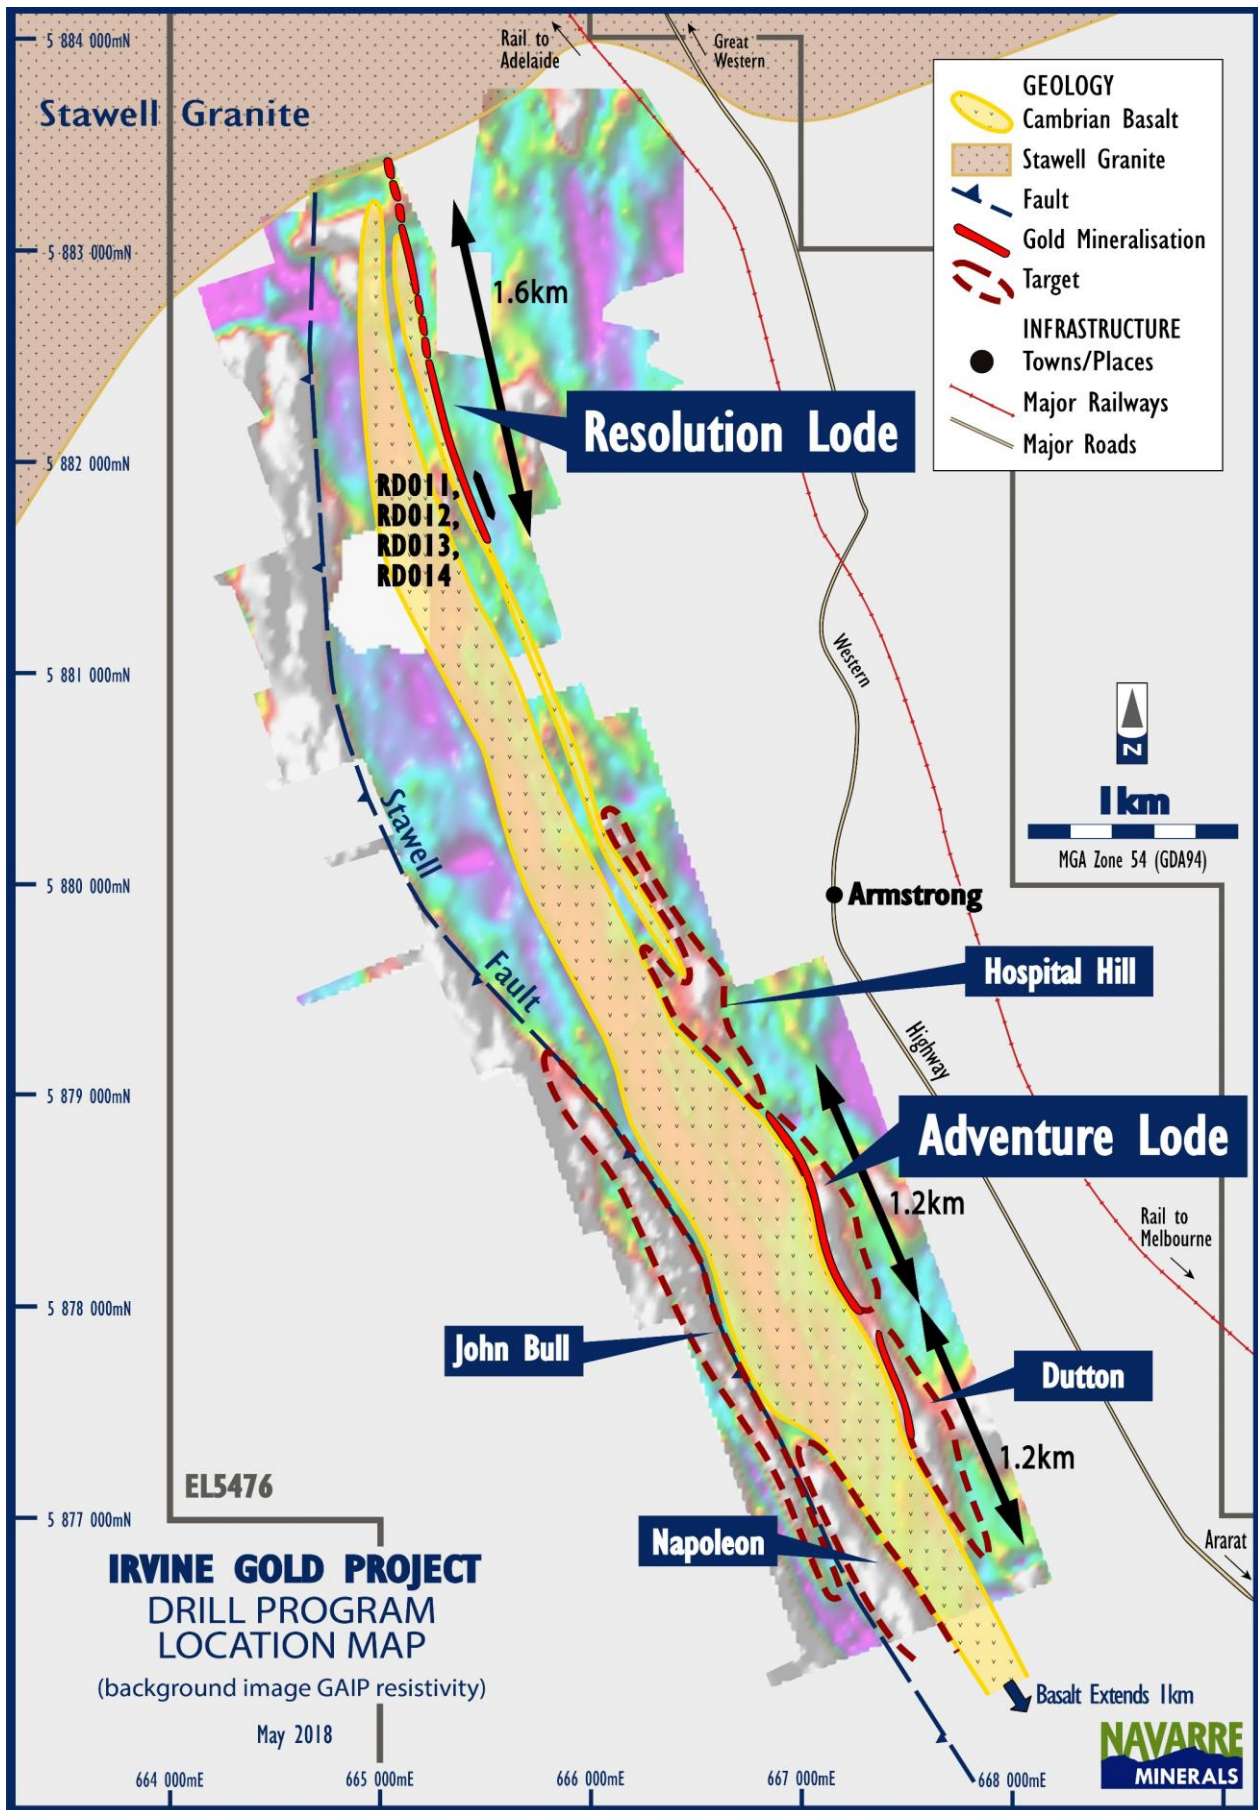
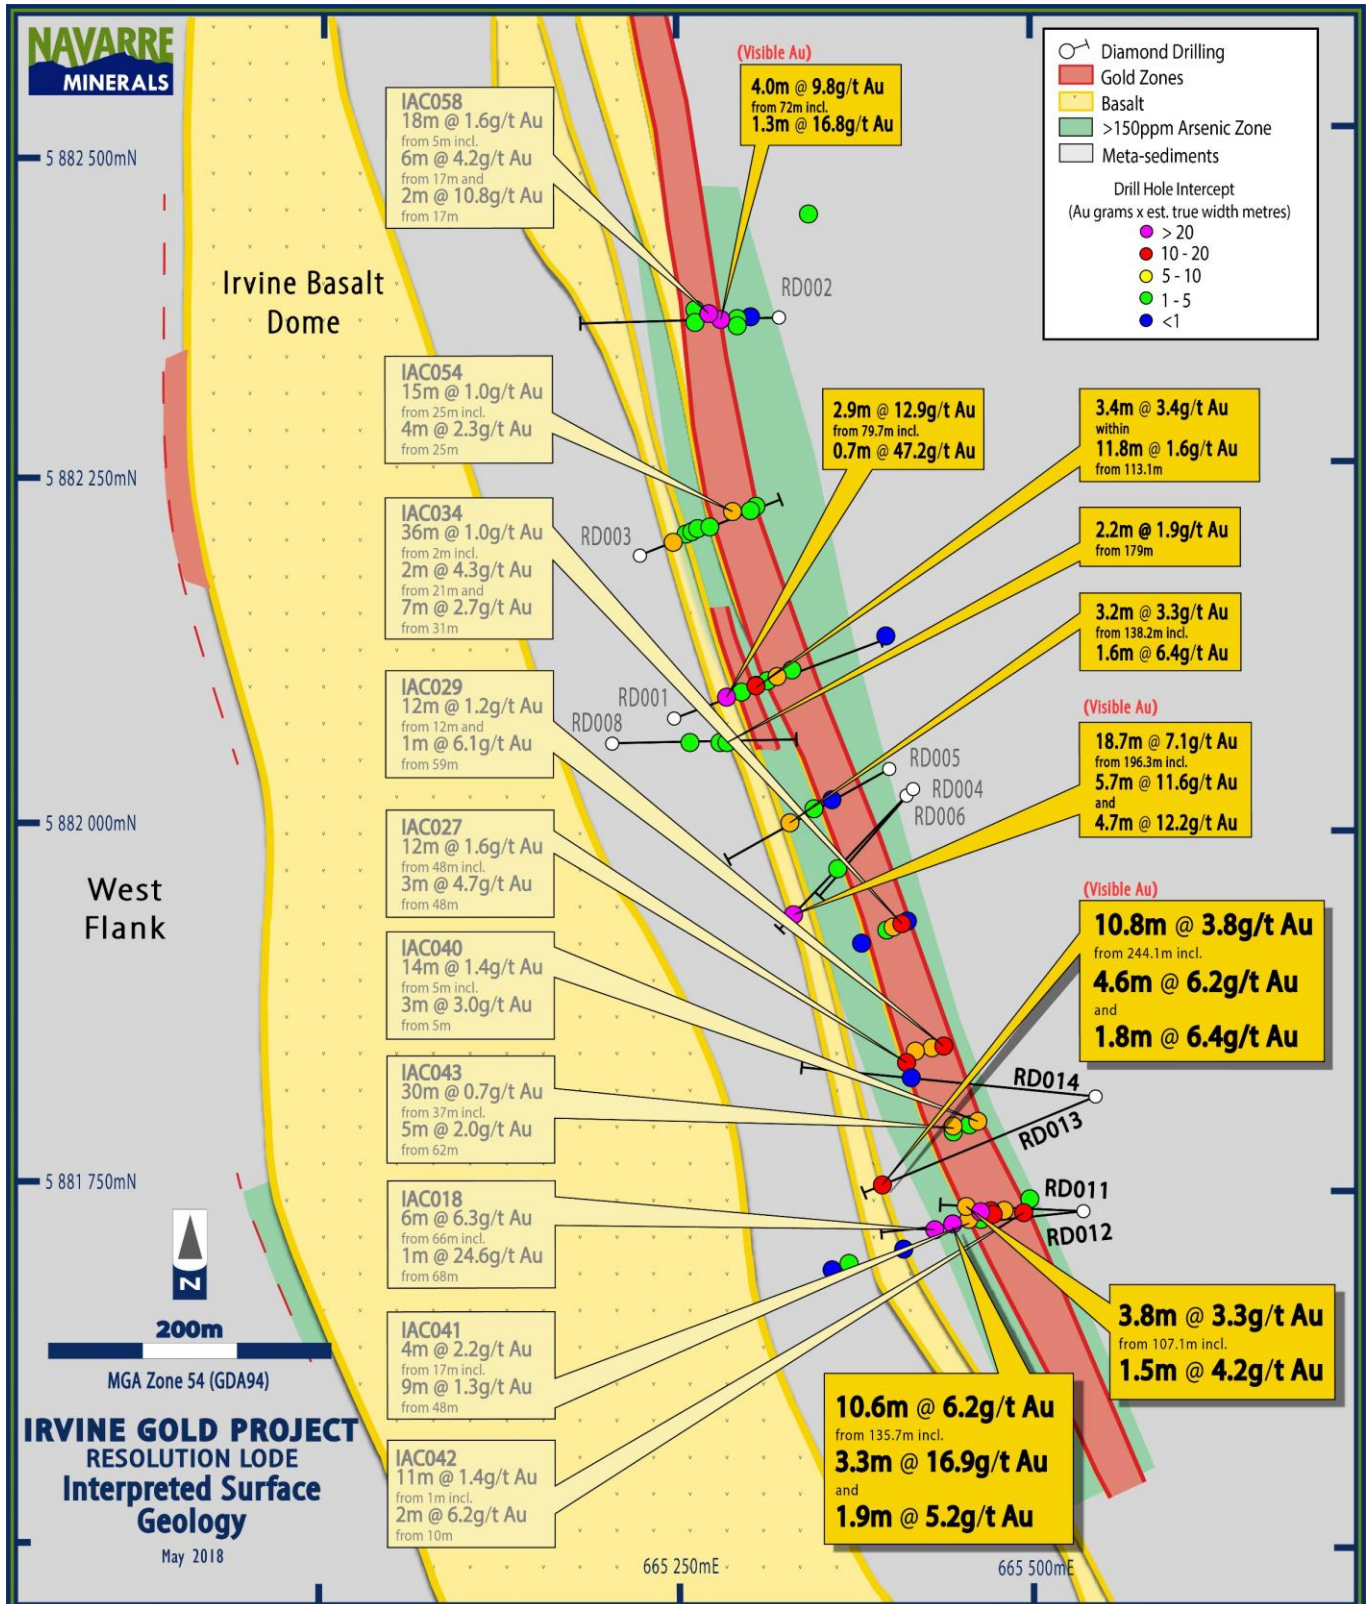

Figure 2: Map of Irvine Gold Project showing location of Resolution and Adventure lodes and key prospects
Figure 3: Surface geology plan of the Resolution Lode showing significant gold intercepts.
The DD program was part of Navarre's ongoing 8,000 metre drilling campaign currently being undertaken at the Irvine Gold Project (Figure 2). The DD consisted of four holes (RD011-RD014) for a total of 1,137 metres to depths of up to approximately 200 metres from surface, targeting depth extensions of primary gold mineralisation at Resolution Lode.
Drill results from the recently completed four hole program and from the previous seven holes drilled in 2017, most notably in drill holes RD012, RD013, RD002 and RD006, confirm the potential for high-grade gold shoots developing at depth (refer to Figures 3 & 4).
Highlight results from the four hole DD program (see Figures 3 -5 & Table 1) include:
Resolution Lode is a recent primary gold discovery on the north-east flank of the Irvine basalt dome and was the first prospect drilled at the Irvine Gold Project following encouraging results from mapping, rock chip sampling and geophysics (Figure 2). A thick 50m zone of oxide gold, extending from surface over a strike length of 1,600m, has been defined with air-core (AC) drilling and remains open at depth (Figures 3 & 4). Expansion of this mineralised zone into the sulphide zone with deeper drilling is a key focus for the Company and the first steps in building a gold inventory for resource estimation.
Some of the previous best drill intercepts include (Figures 3 & 4):
RD011 – intersected a mineralised quartz-sulphide structure at approximately 10m below air-core (AC) hole IAC018 which had returned **6m @ 6.3 g/t Au** from 66m down hole (Figures 3 - 5). The **3.8m @ 3.3 g/t Au** intercept recorded in RD011 was partially ‘stoped-out’ (replaced) by a post-mineralisation lamprophyre dyke that are commonly present within the Victorian goldfields.
RD012 – recorded the best intercept of the four holes drilled – **10.6m @ 6.2 g/t Au**. This hole was sited 40 metres below RD011 (Figures 3 - 5). This hole opens up the potential for further expansion of high-grade mineralisation to the south.
RD013 – was the deepest hole in the program and intersected five small specks of visible gold (Figures 3, 4 & 6). The hole intersected two stronger zones of high-grade gold (**4.6m @ 6.2 g/t Au** and **1.8m @ 6.4 g/t Au**) within a broader zone of **10.8m @ 3.8 g/t Au**. This hole intersected the west-dipping mineralised shear structure in a similar
structural position to RD012 (Figure 3). The nearest drill intercepts to RD013 include the high-grade RD012 and RD006 which are 100 and 200 metres away respectively.
RD014 – intersected the mineralised quartz-sulphide shear structure but was not strongly developed in this position (Figures 3 & 4).